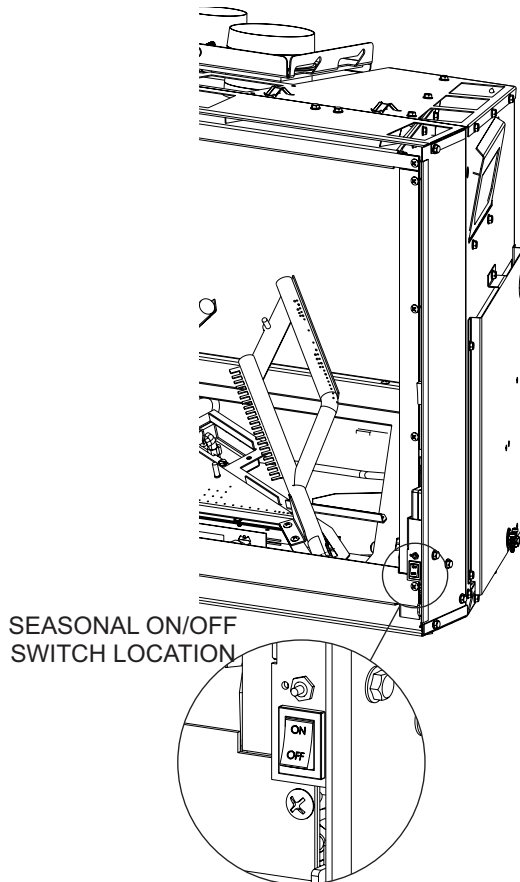

Figure 29
1. At the end of the heating season turn off the fireplace insert to prevent accidental starting. Remove the barrier screen and locate the switch at the lower right. Push the switch to the OFF position. **See Figure 29.** Replace the barrier screen.